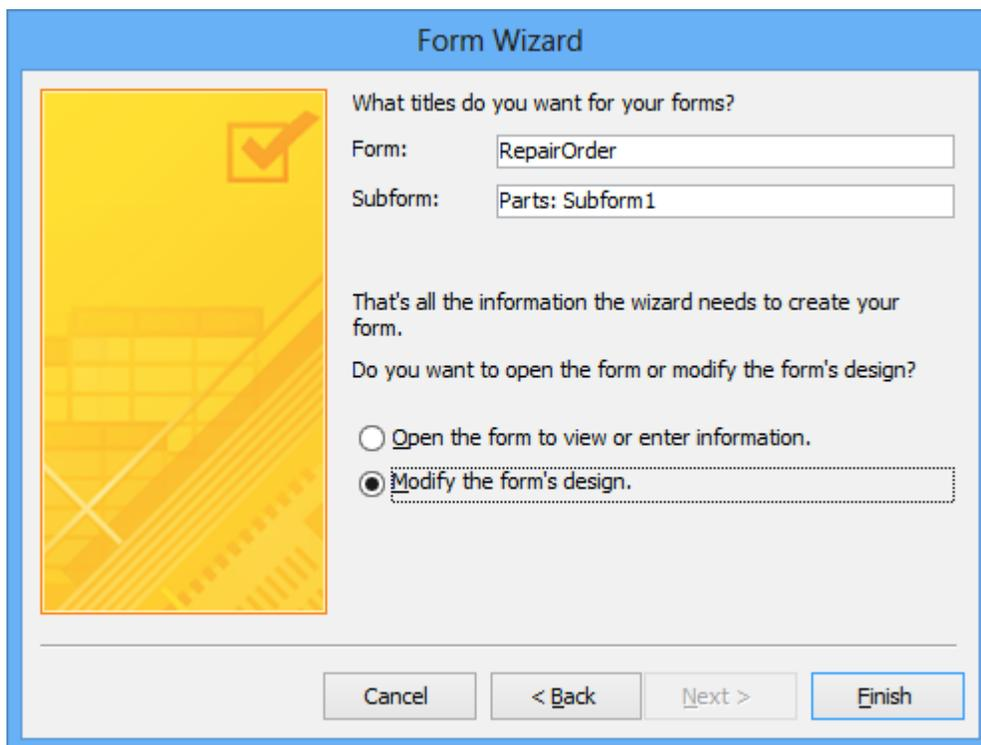
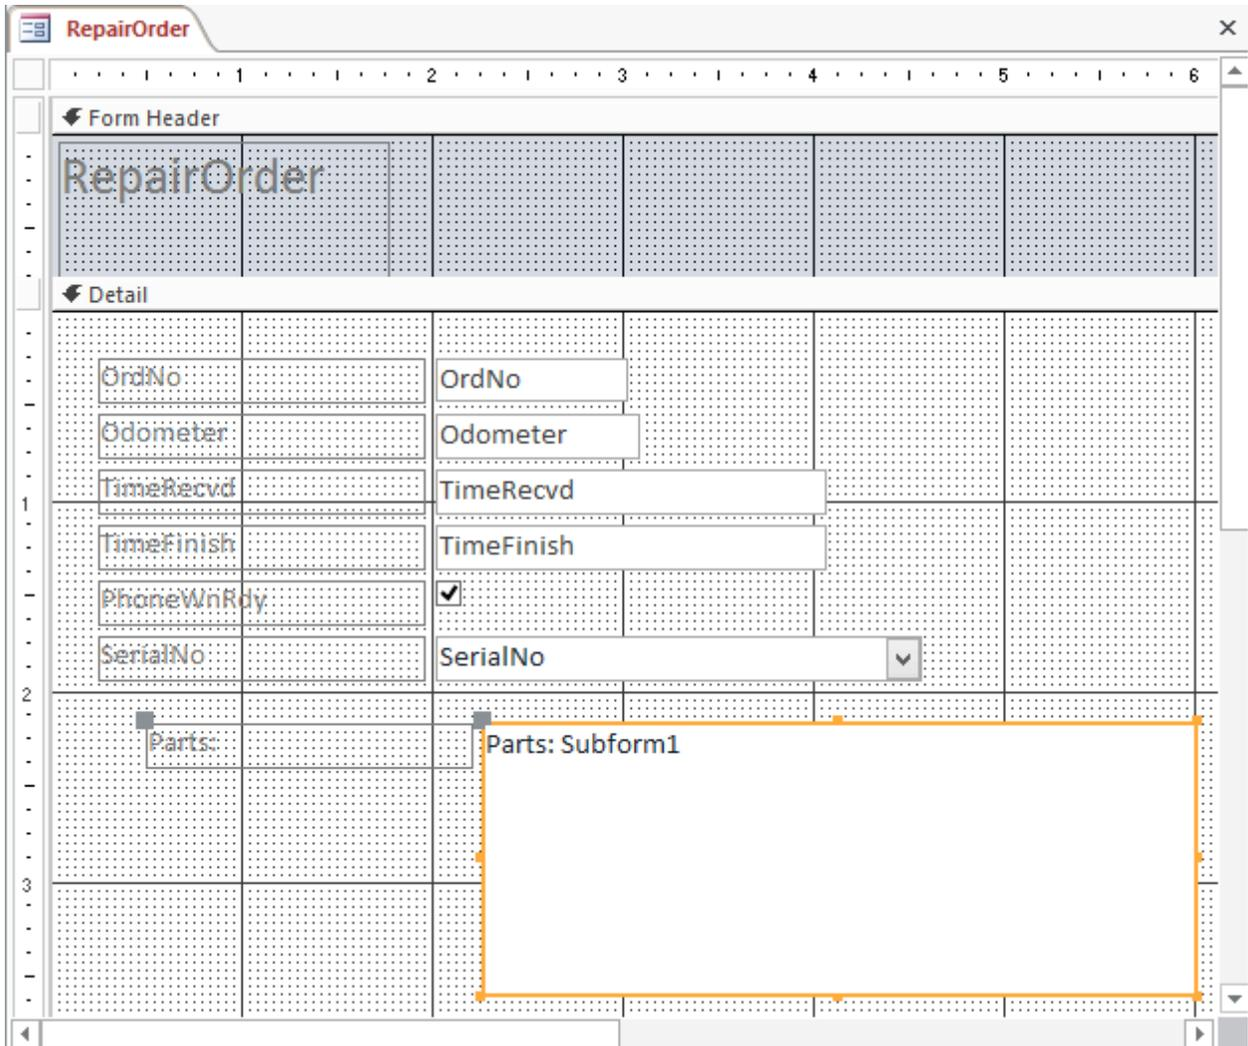

Figure 6: Last Window of the Form Wizard
Figure 7: Design View for the RepairOrder Form
- Name the Forms: You must provide names for the main form and the subform. If not entered already, type “RepairOrder” for the main form and “Parts: Subform1” for the subform (Figure 6). In the same window, select the second option, “Modify the form’s design”, and click **Finish**. The *RepairOrder* form appears in design view as shown in Figure 7.